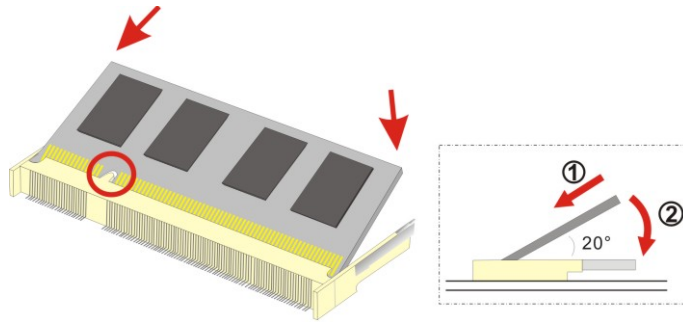

Figure 5-2: SO-DIMM Module Installation
Step 5: Align the new SO-DIMM so the notch on the memory lines up with the notch on the memory socket (**Figure 5-2**).
Step 6: Push the memory in at a 20° angle (**Figure 5-2**).
Step 7: Gently push downwards and the arms clip into place (**Figure 5-2**).